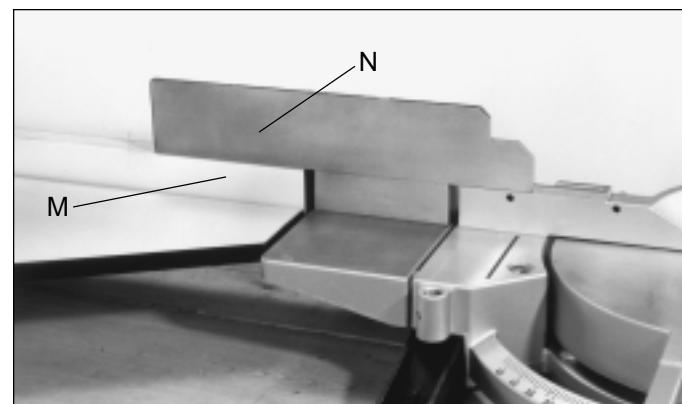

Fig. 9
12. **IMPORTANT: If the miter saw you are using is equipped with a sliding fence, the sliding fence (N) Fig. 9, must either be removed or modified so that it will slide over the top of the miter table fence (M).**